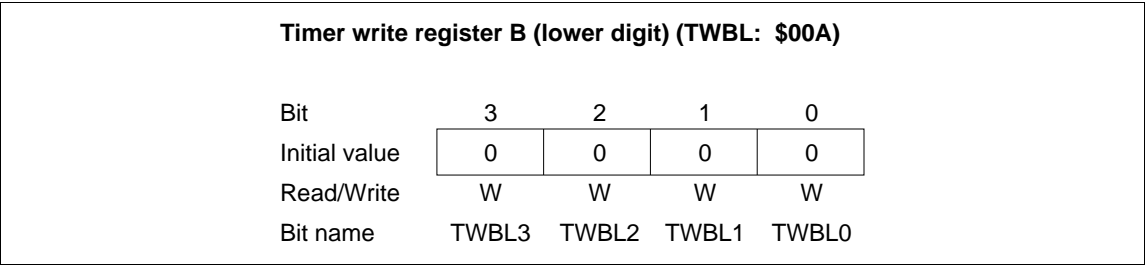

Figure 35 Timer Write Register B Lower Digit (TWBL)
- Timer write register B (TWBL: \$00A, TWBU: \$00B): Write-only register consisting of the lower digit (TWBL) and the upper digit (TWBU). The lower digit is reset to \$0 by MCU reset, but the upper digit value is invalid (figures 35 and 36).